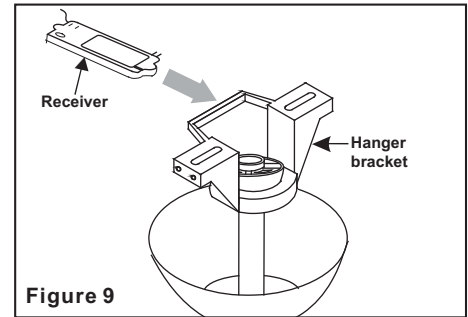

Figure 9
Step 1. (Figure 9) Insert the receiver into the mounting bracket with the flat side of the receiver facing the ceiling.